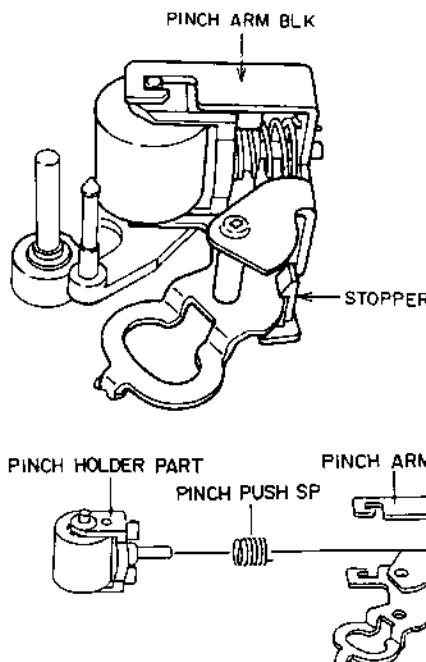

Fig. 4-8
- 1) Release the stopper of the PINCH ARM and remove the PINCH ARM BLK as shown in Fig 4-8.